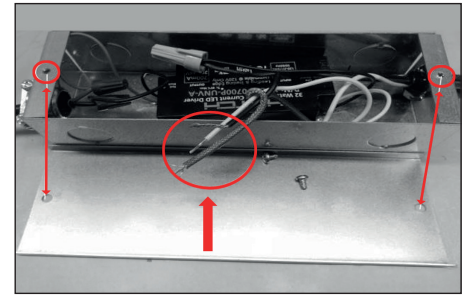

Fig. 8
- Remove Remote/Semi-Remote driver box cover, exposing driver input and output wires. [Fig. 8]